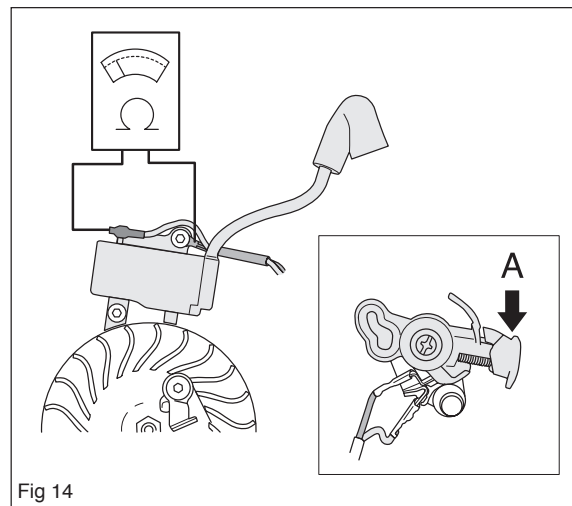
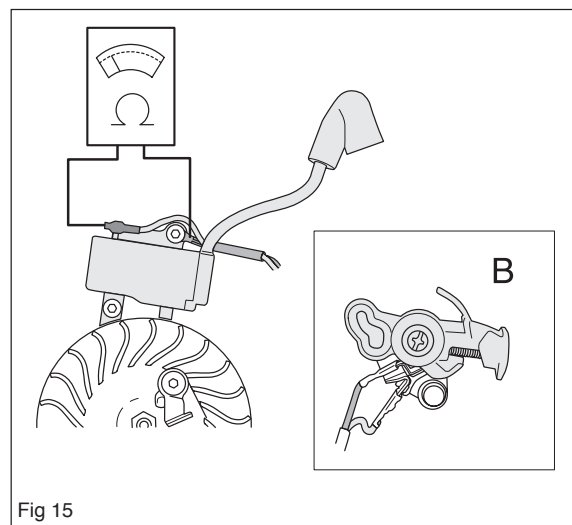

Fig 14
Fig 15
Cut off the starlock washer and pull out the control from the shaft on the filter holder. (see figure 14)
Measure the resistance by connecting a multimeter to the ignition coil. NOTE! The switch must be in the “on” (A) position to give the correct reading (see figure 14).
The stop switch is in the on position when the button is held down (A) (see figure 14) and in the off-position the button is neutral (B) (see figure 15).